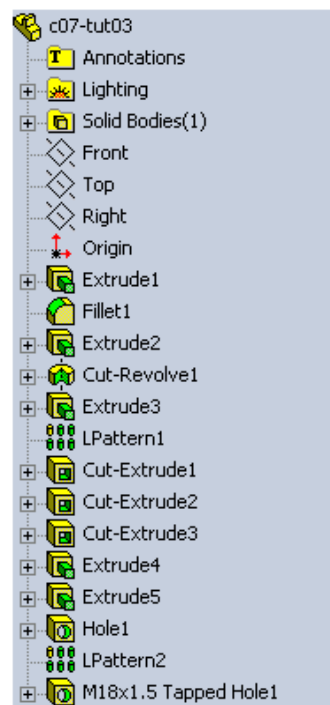

Figure 7-95 The FeatureManager Design Tree
7. Choose the **Section View** option again from the **View** menu to return to the full view mode. The **FeatureManager Design Tree** is shown in Figure 7-95.